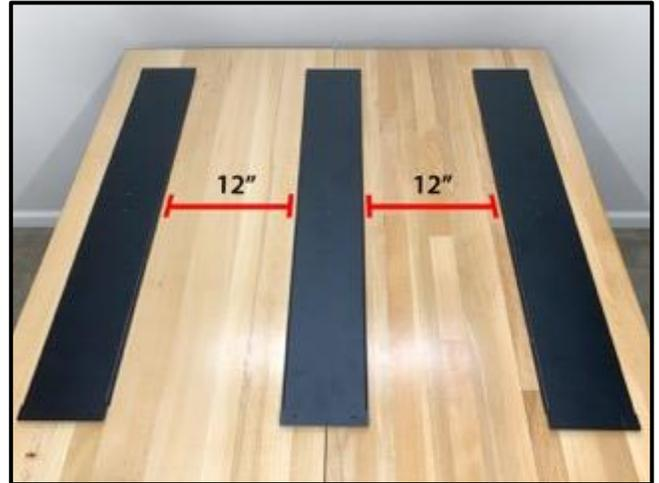

Figure 2-4
1. Lay out the three (3) cross straps parallel to each other, with the flanged edges facing down and 12 inches of space between them. See *Figure 2-4*.